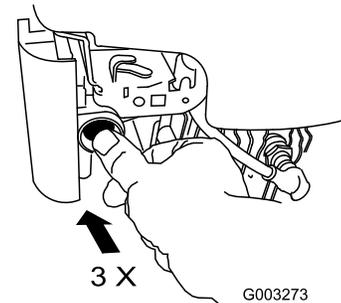

Figure 18
1. Firmly push in the primer 3 times with your thumb, holding the primer in for a second before releasing it each time (Figure 18).